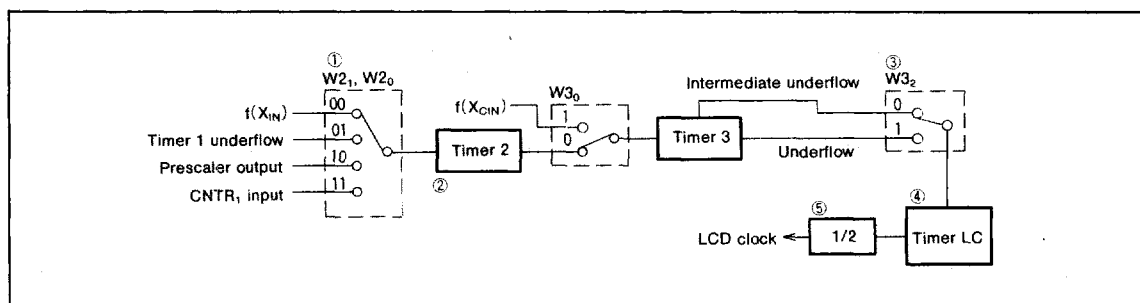

Fig. 38 LCD clock control circuit structure
(2) LCD clock control
The LCD clock is determined by the setting values of the timer 2 count source selection bits ($W2_0$ and $W2_1$), timer 3 count source selection bit ($W3_0$), LCD frequency dividing circuit count source selection bit ($W3_2$), and timer LC. Accordingly, the frequency (F) of the LCD clock is obtained by the following formula. The number (① to ⑤) under formula corresponds to Fig. 38.